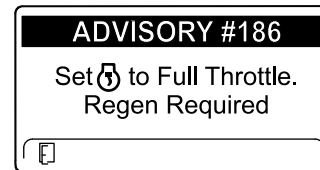

Figure 46
**Note:** If the engine exhaust temperature is too low, the InfoCenter displays ADVISORY #186 (Figure 46) to inform you to set the engine to full throttle (high idle).